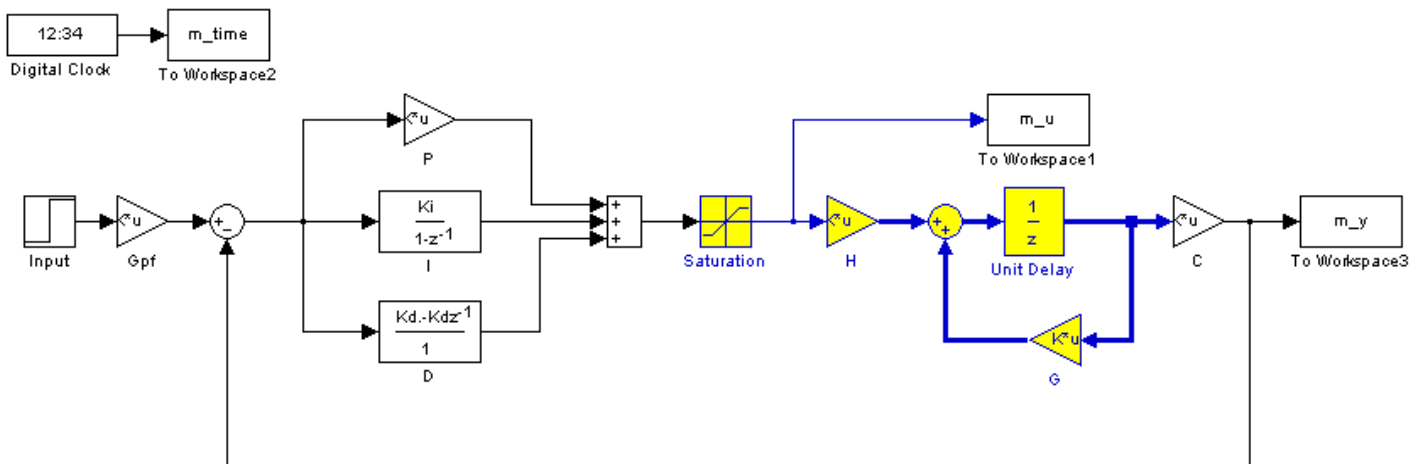

Figure 1. Simple feedback loop with a discrete-time PID controller.
The file **DT_PID.mdl** is a Simulink model that implements a discrete-time PID controller. It is somewhat unusual in that the plant is represented in state-variable form, but this is the usual form we will use in this class. The Simulink model looks like the model shown in Figure 1:
- Run **DT_PID_driver.m** and print out the picture and attach it to this homework. It should look like Figure 1.